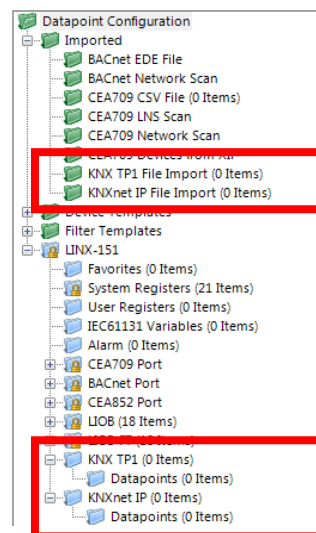

Figure 145: Data Point Manager Dialog with KNX import and device folders.
- The folder list (Figure 145),